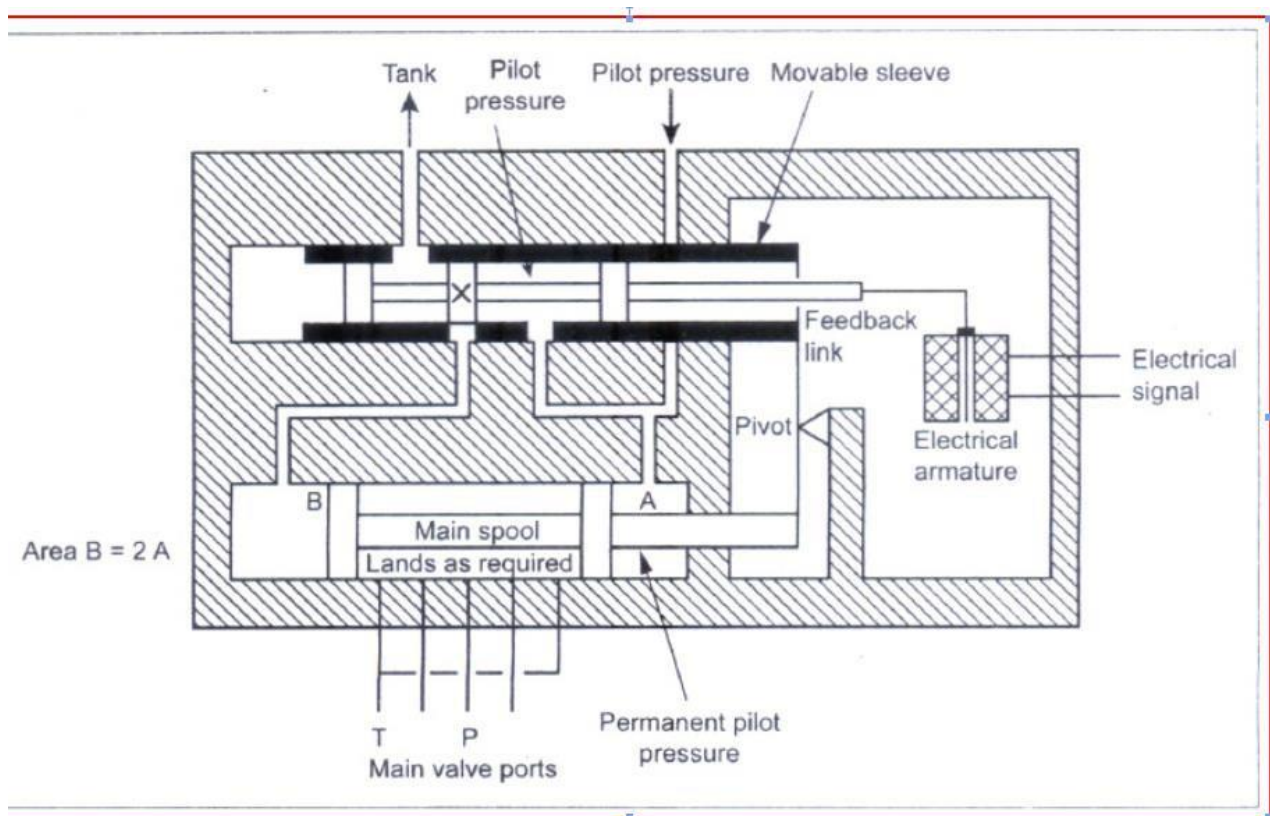

Fig.2.43. Two-stage electrohydraulic servo valve
As shown in Fig.2.43, this arrangement consists of a small pilot spool connected directly to the small spool of the pilot valve. The pilot spool moves within a sliding sleeve, mechanically linked to the main spool. The way that the effective area of the left hand end of the main spool is twice that of the right hand end.
- Suppose the electrical control signal causes the pilot spool to shift towards left. Now the land X allows the oil flow to the end B of the main spool. Since area $B = 2A$ (Fig.2.43), the main spool shifts towards the right. This in turn pushes the sleeve left.